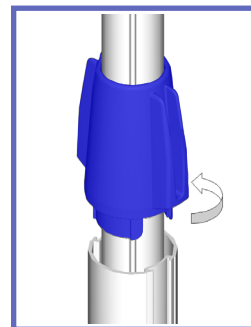

Fig. 19
- 8) Lift the blue locking handle out of the lower portion of the post. Using the blue piece as a handle, twist the post as shown in Fig. 19: